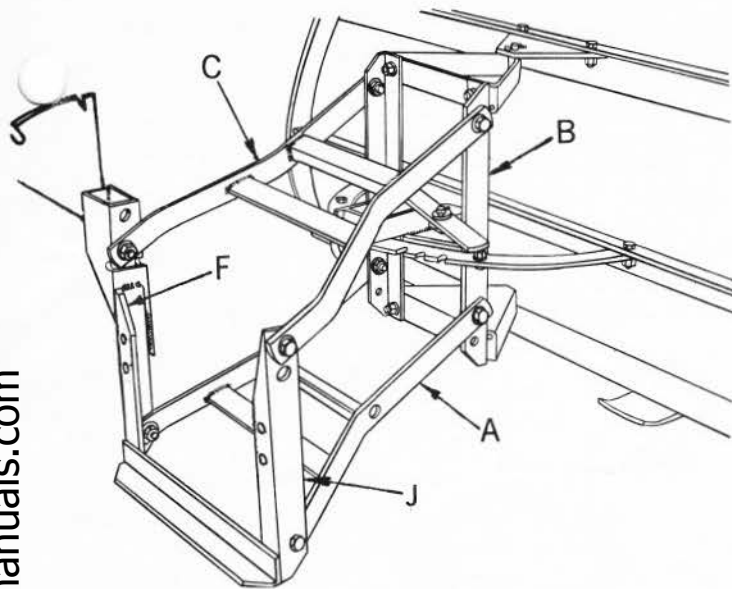

FIG. 1
2. Refer to Figure 1. Assemble lower lift frame (A) to lower holes in mounting angles (F & J) as shown with two $7/16 \times 1-1/4$ hex bolts through mounting angles (F & J) then through lower lift frame (A). Slip bushing over bolt and into lower lift frame (A), add flat washer, and secure with lock nut. NOTE: Head of bolt to outside, and lift frame (A) is inside mounting angles (F & J).
3. Slip flat washer then bushing on bolt and insert bolt through upper lift frame (C) and into mounting angles (F & J). Secure with lock nut. Note: lift frame (C) is outside of mounting angles (F & J). See Figure 1.
4. Refer to Figure 1. Assemble lower lift frame (A) to second hole from bottom of front frame (B) as shown. Slip washer on bolt then bushing and insert through lower lift frame (A) and into front frame (B). Secure with locknut.
5. Assemble upper lift frame (C) to upper holes in front frame (B) in same manner as lower lift frame was assembled to front frame. Tighten all nuts securely.